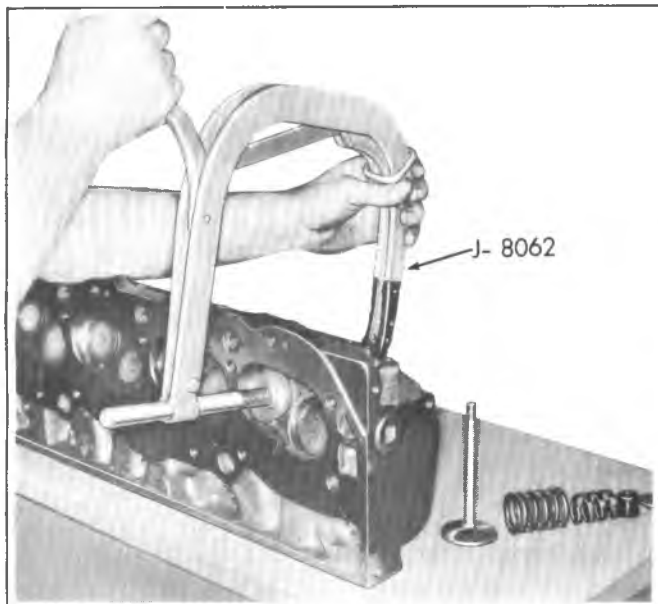

Fig. 6A5-18--Compressing Valve Spring
2. Using Tool J-8062, compress the valve springs (fig. 6A5-18) and remove valve keys. Release the compressor